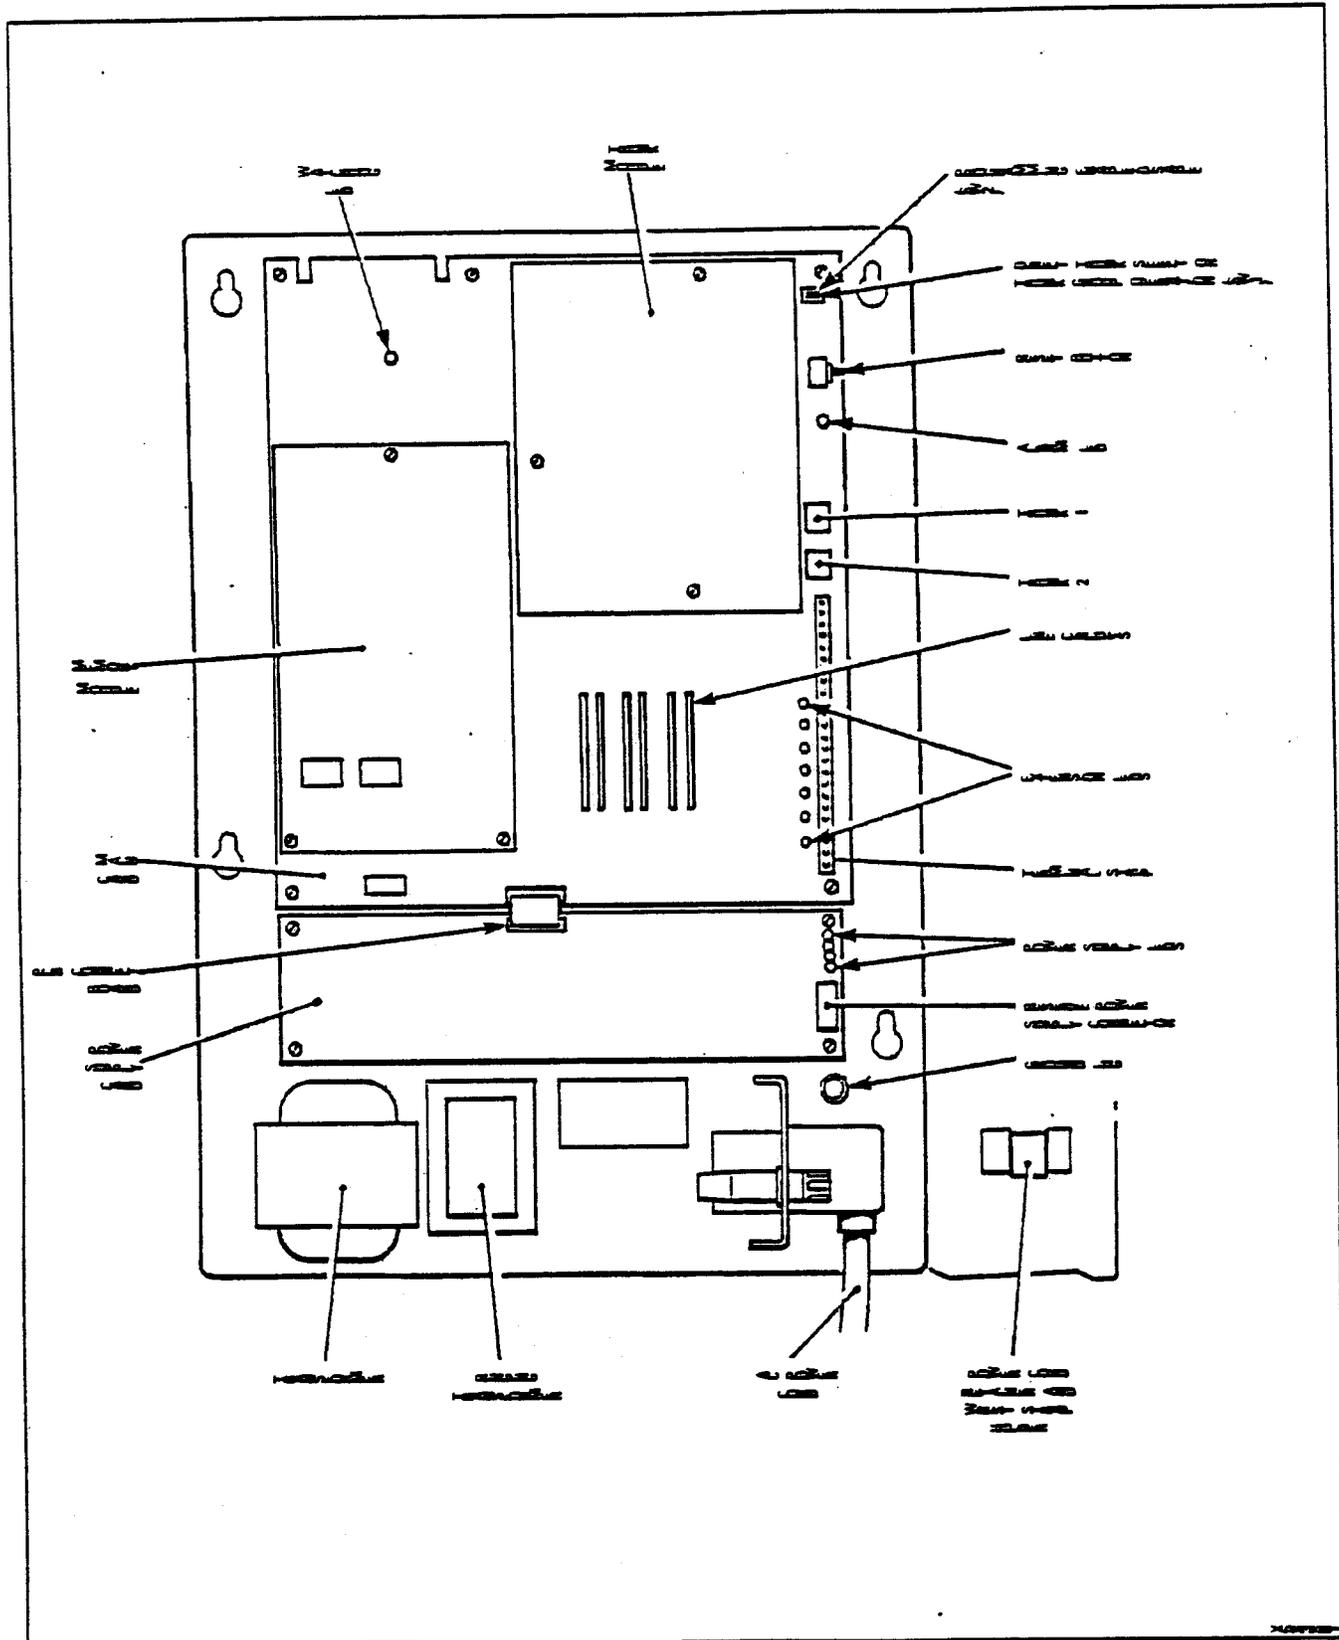

Fig. 004-1 SX-5 Equipment Layout
- (1B) Remove the three Trunk Module retaining screws. Refer to Fig. 004-1
- (3C) Replace the three Trunk Module retaining screws. Refer to Fig. 004-1.